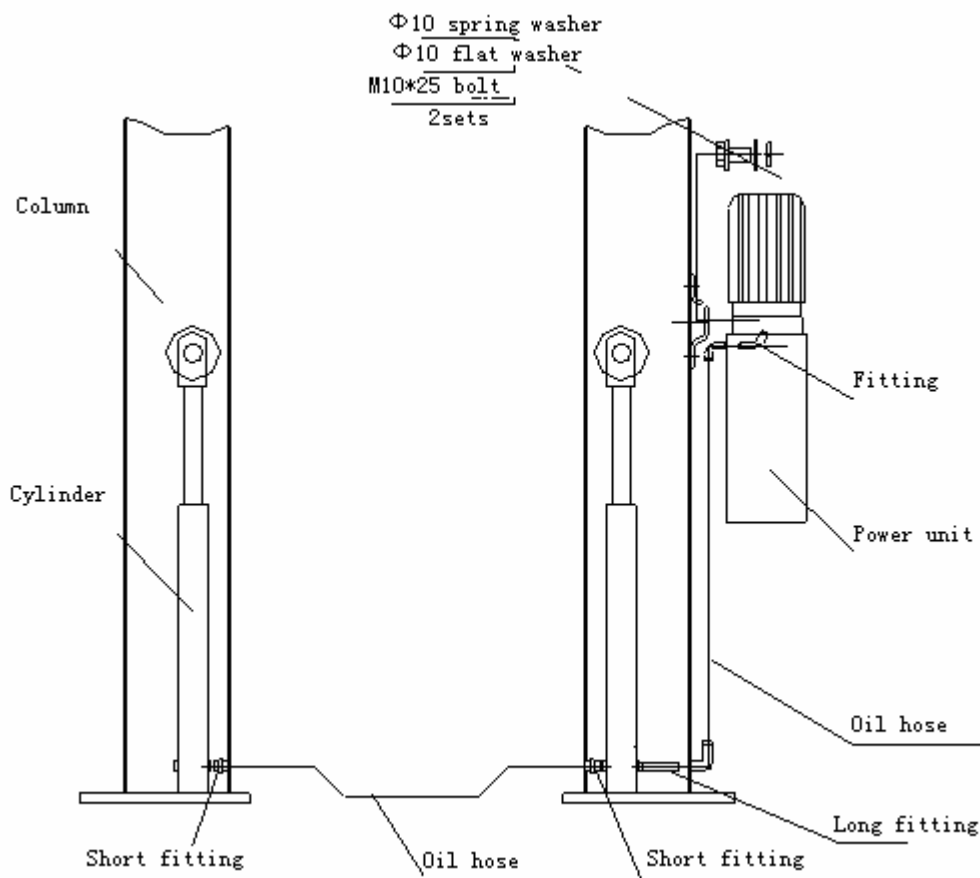
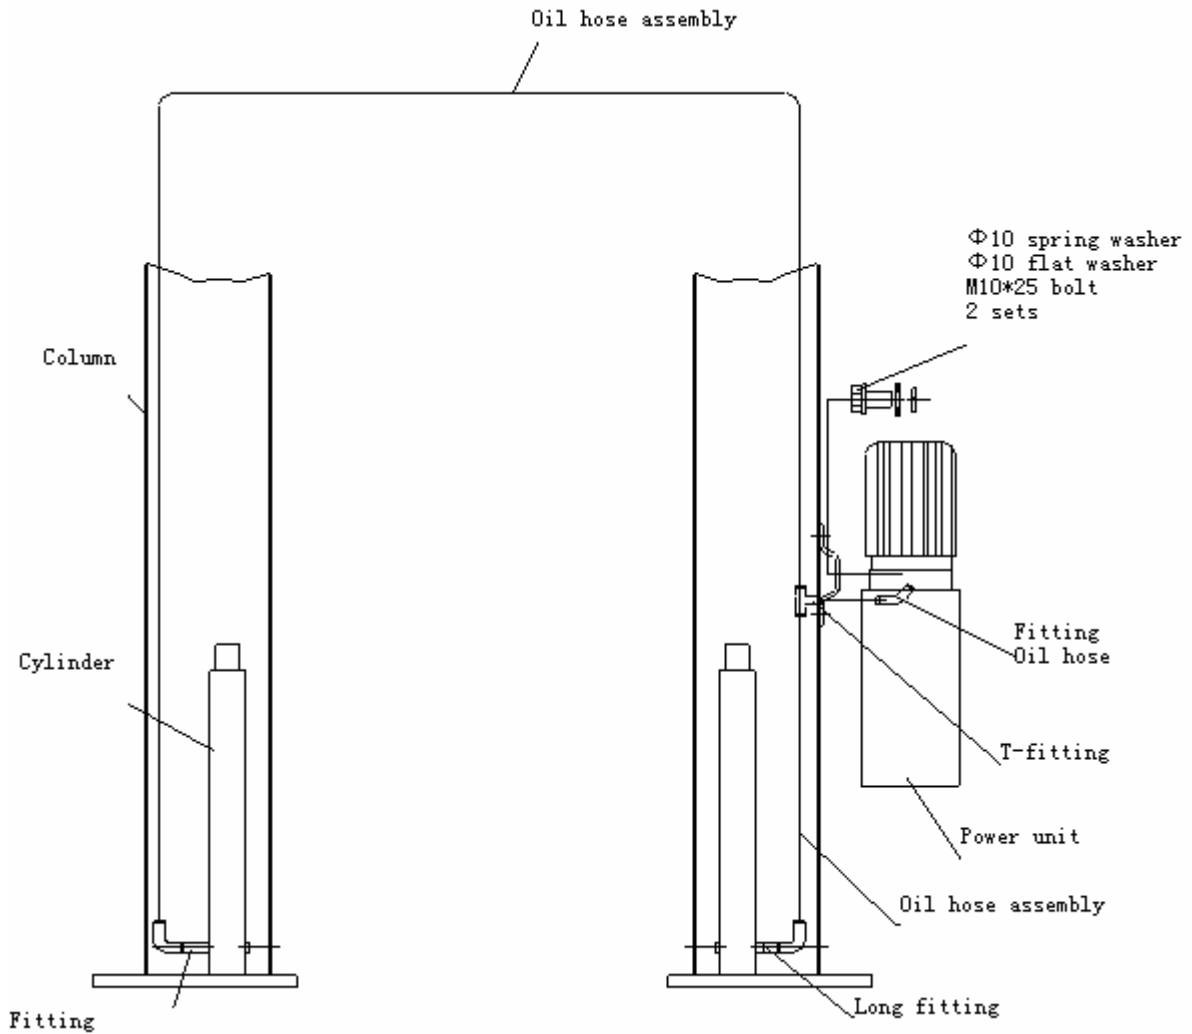

Fig 10a
Fig.10b
unit as shown in Fig. 10a, for TLT235SBA、TLT235SBA (E)、TLT240SBA models, install the hydraulic line as shown in Fig. 10a, for TLT240SCA、TLT235SCA (U) models, install the hydraulic line as shown in Fig. 10b and tighten all the fittings to prevent oil leakage.